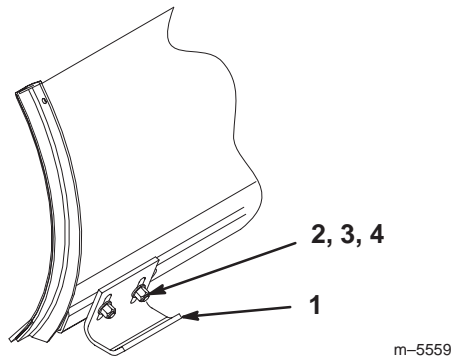

Figure 3
4. Attach the skids to the blade with 4 carriage bolts (3/8 x 1 in.), flat washers (3/8 in.), and locknuts (3/8 in.) (Fig. 3). Position the skids according to what type of surface you will be plowing. Position the skids lower for plowing rough surfaces or higher for plowing smoother surfaces.